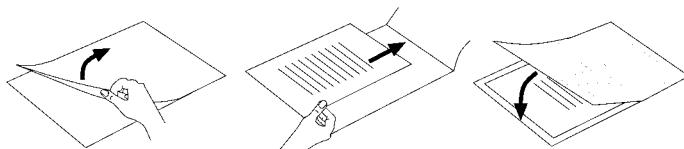

Fig. 2
- ▶ Make certain that you use only one pouch for laminating. First flip it up, as shown in Fig. 2.
- Make certain that you use only one pouch for laminating. First flip it up, as shown in Fig. 2.